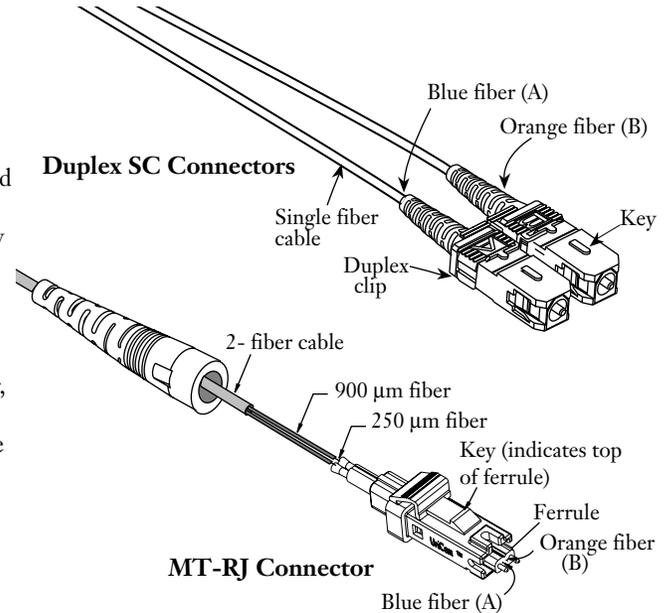

Figure 1
**1.2** Figure 1 shows the difference in fiber configurations for single fiber, single ferrule connectors and for dual fiber, single ferrule connectors. In the MT-RJ ferrule, note that the "B" position is referencing the left fiber, relative to the key, and the "A" position is referencing the right fiber.